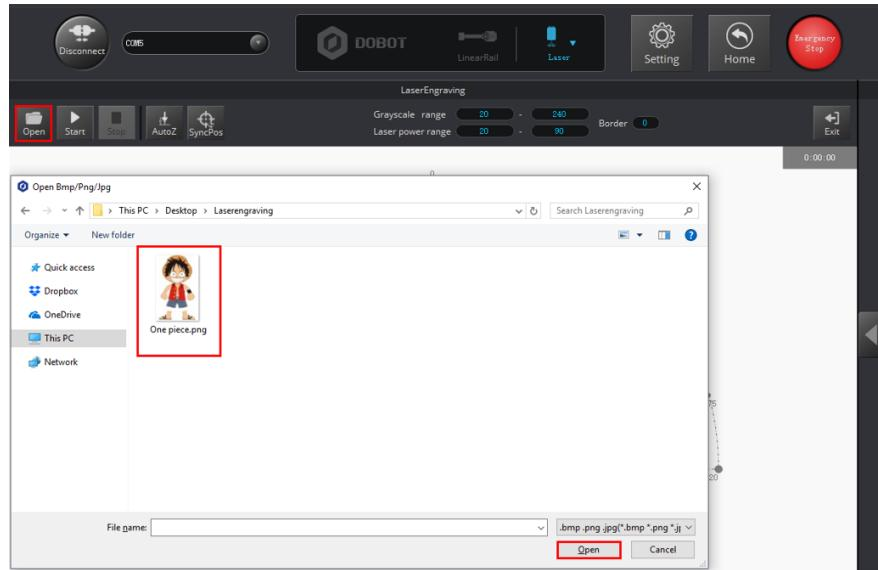

Figure 5.95 Import an image file
**Step 2** Click **Open** to import an image file such as BMP, JPEG, or PNG, as shown in Figure 5.95.